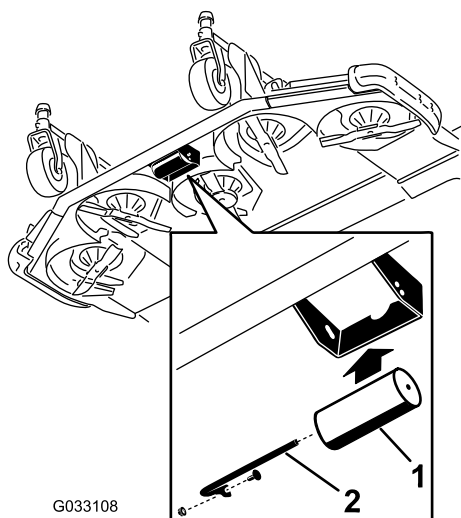

Figure 25
2. Align the roller with the top holes and install the shaft with the screw and nut (Figure 25).